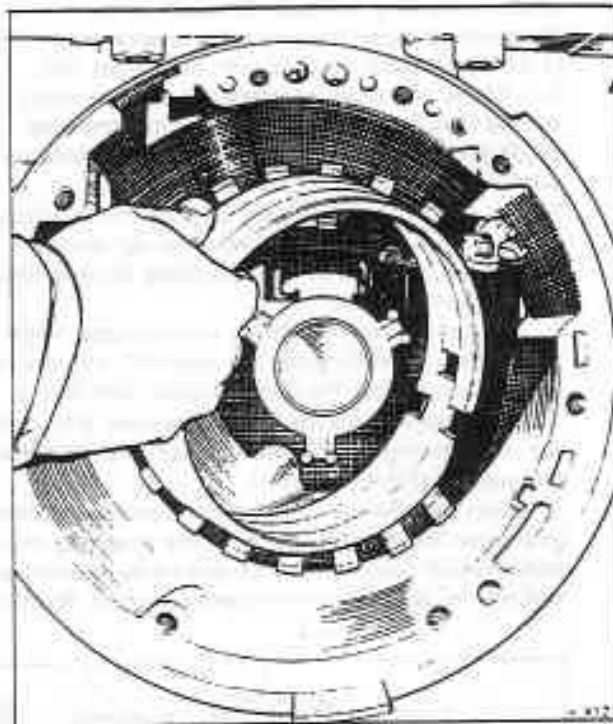

Fig. T19-21 Fitting the rear band
1. Fit the rear band assembly into the transmission case so that the band lugs engage with the anchor pins (see fig. T19-21).